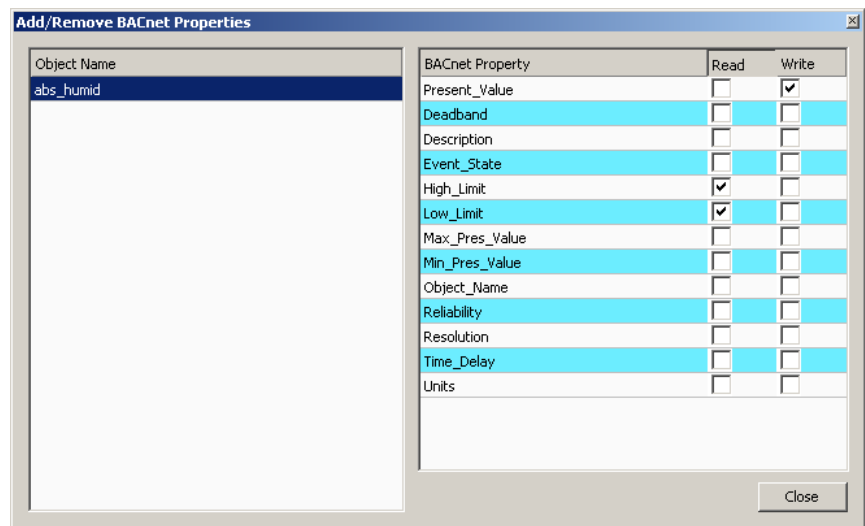

Figure 99: Dialog for adding/removing BACnet properties.
2. Right-click on the data point and select **Add/Remove BACnet properties ...**. The dialog appears as shown in Figure 99.